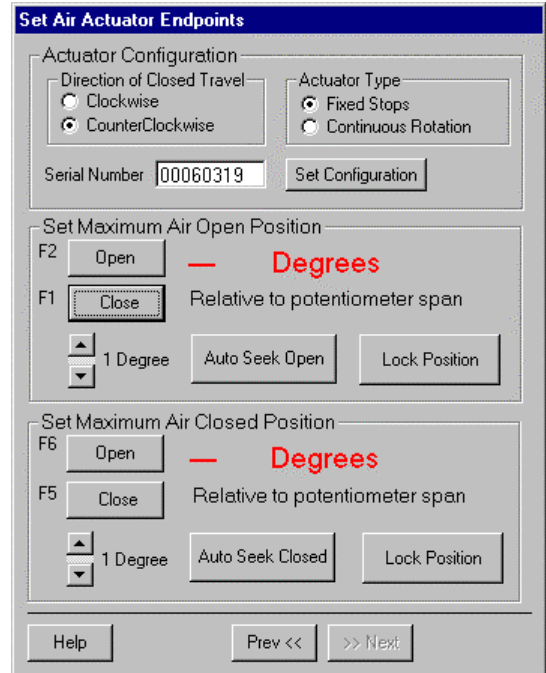

Fig. 9. Set Direction of Travel.
- a. Direction of Closed Travel—Select the direction that the actuator travels to close, either *Clockwise* or *Counterclockwise*. See Fig. 9.